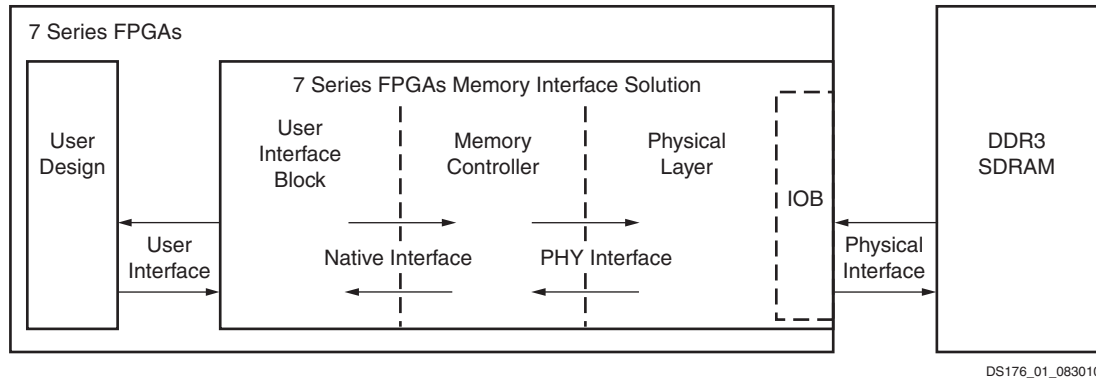

Figure 1: DDR3 SDRAM Memory Interface Solution
Figure 1 shows a high-level block diagram of the 7 series FPGA memory interface solution connecting a user design to a DDR3 SDRAM device. The physical layer (PHY) side of the design is connected to the DDR3 SDRAM device via FPGA I/O blocks (IOBs), and the user interface (UI) side is connected to the user design via FPGA logic. Refer to UG586, *7 Series FPGAs Memory Interface Solutions User Guide* for more details regarding the design.
As shown in Figure 1, the top-level functional blocks of the 7 series FPGAs memory interface solution include:
Figure 1 also shows a user design connecting to the memory interface. An example user design is provided with the core. Refer to UG586, *7 Series FPGAs Memory Interface Solutions User Guide* for more details regarding the design.